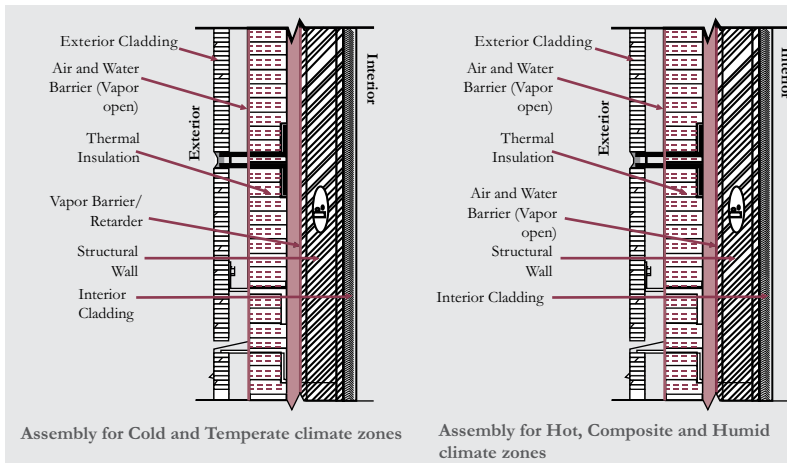

Fig. 7: Schematic Showing the Correct Placement of Barriers.
to prevent air and moisture movement into and out of the conditioned space, as well as for maintaining their installed R-value. (Fig. 7)
* See the discussion about where to place a vapor barrier/retarder. (Fig. 7)